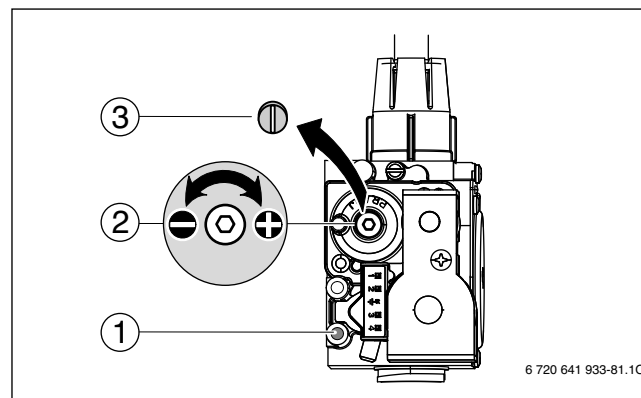

Fig. 59 Setting the CO₂ or O₂ values for minimum nominal output
- ▶ Remove screw (→ Fig. 59, [3]) from the gas valve adjustment screw (→ Fig. 59, [2]) and set CO₂ or O₂ value for minimum nominal output.
- ▶ Reinstall screw (→ Fig. 59, [3]) to cover the adjustment screw (→ Fig. 59, [2]) on the gas valve again.